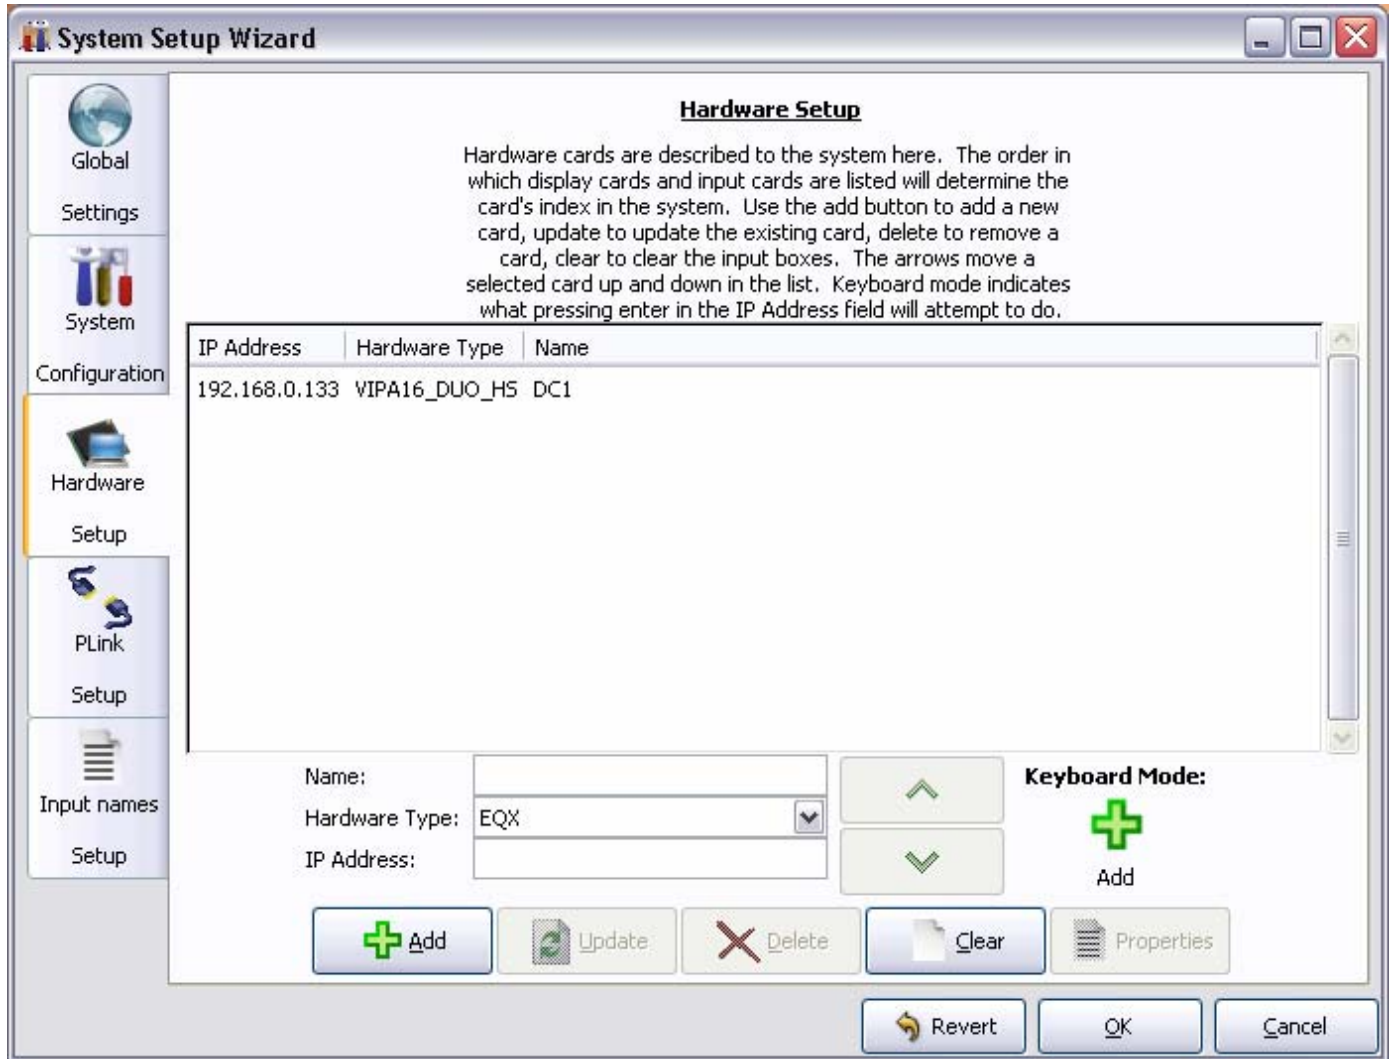

Figure 10-1: Adding DCP to Hardware List
6. Add a DCP to the hardware list by filling in the name (e.g.: DCP1), type (DCP), and IP address fields. See Figure 10-1.